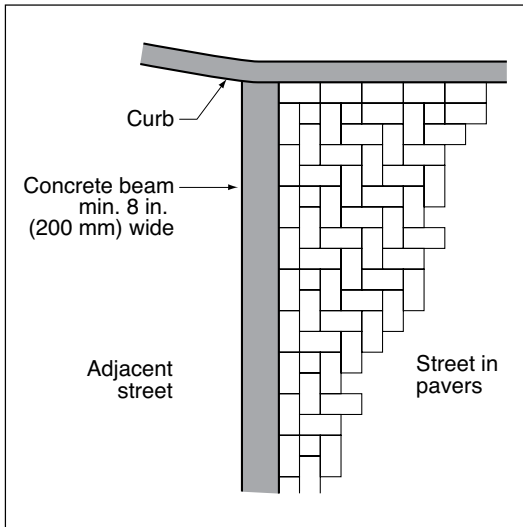

Figure 10. Concrete beam.
**Utility covers** in streets and walks (e.g., sewers, water and gas valves, telephone, electrical,) should have concrete collars around them. Consistent compaction of aggregate base against cast iron collars is difficult, so a concrete collar placed around them after base compaction reduces the potential for settlement. Concrete collars should be 1/4 in. (6 mm) below the pavers to prevent catching snowplow blades (Figure 10). Drain and catch basin inlets should have a concrete collar around them if they are not encased in concrete.
**Crosswalks**—Pavers in a crosswalk or abutting another pavement can be placed against a concrete beam (Figure 10),